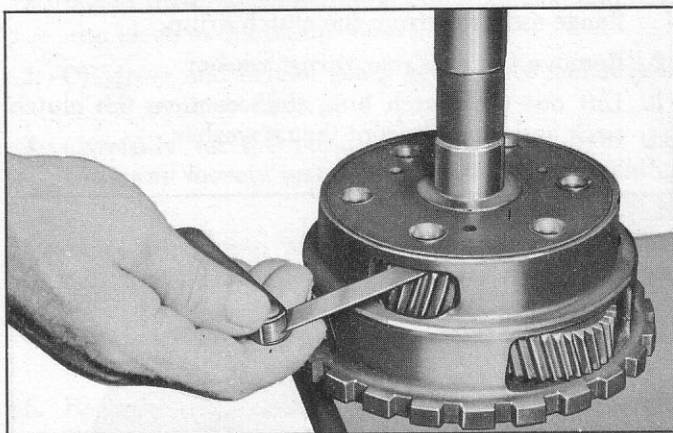

Fig. 30—Checking Planet Gear End Clearance
3. Check end clearance of planet gears. This clearance should be .006"-.030" (fig. 30).
23. Check end clearance of planet gears. This clearance should be .006"-.030" (fig. 30).